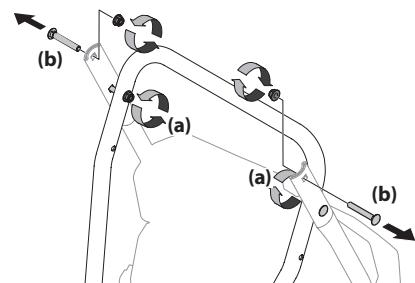
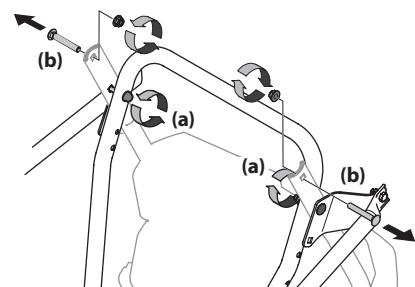

Figure 2-1
Figure 2-2
**NOTE:** This Operator's Manual covers several models. Features may vary by model. Not all features in this manual are applicable to all models and the model depicted may differ from yours. Refer to Figure 2-1 which shows the different versions and match the contents of carton (chute and directional control rod/flex shaft) to identify your specific unit.
2. Loosen the top two nuts (a) securing the upper and lower handle and remove the two carriage screws (b) from the upper handle and set aside as shown in Figure 2-1 or Figure 2-2 for units with side supports.